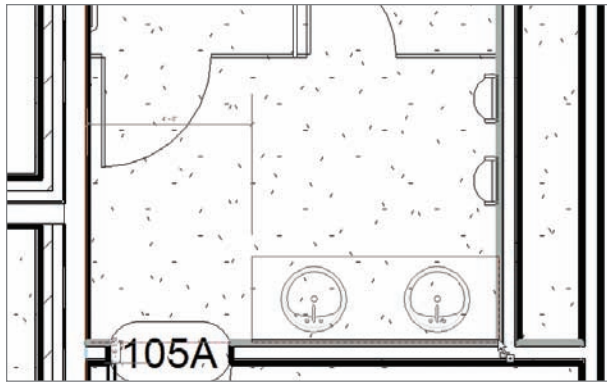

FIGURE 9.44 Placing the double sink
3. Place it into the corner, as shown in Figure 9.44.